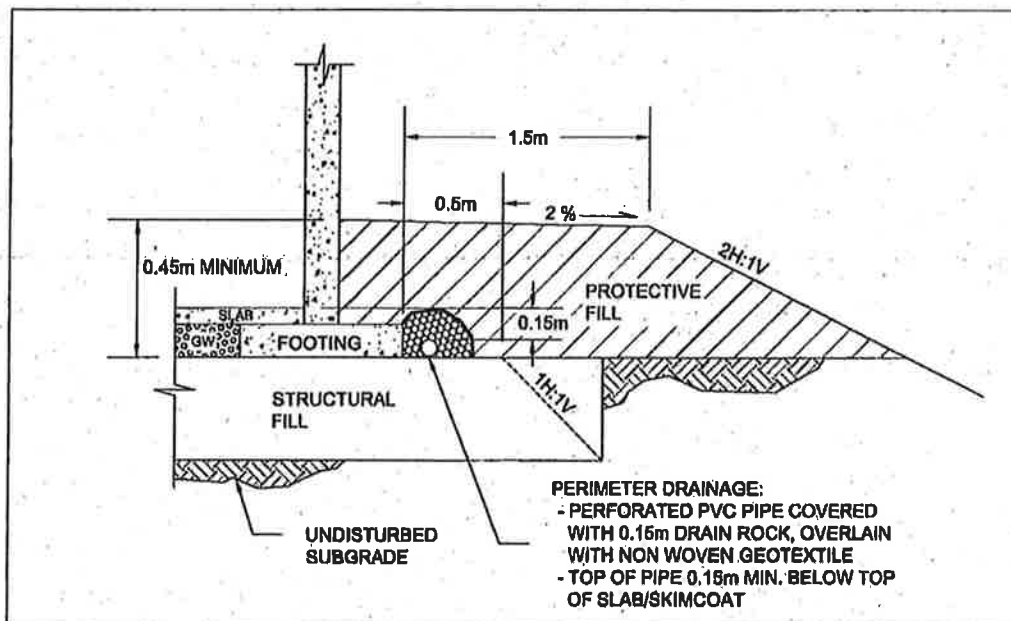

Figure 2: Recommended footing and structural/subjacent fill configuration.
- d. Structural fills under foundations, roadways, and pavements should include the zone defined by a plane extending down and outward a minimum 0.5m from the outer edge of the foundation at an angle of 1H:1V from horizontal to ensure adequate subjacent support. This support zone is shown in the recommended footing and structural/subjacent fill configuration in Figure 2.